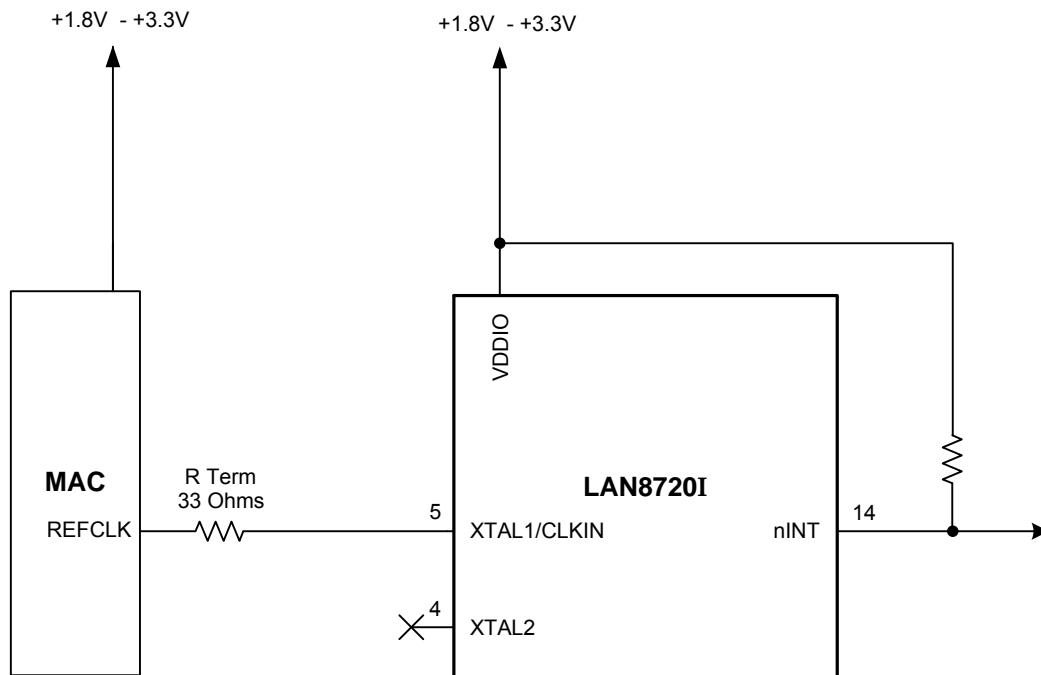

Figure 6 – LAN8720I MAC REFCLK Connections
3. When the LED2/nINTSEL pin (pin 2) is used in conjunction with a LED, refer to Figure 6 below for details.